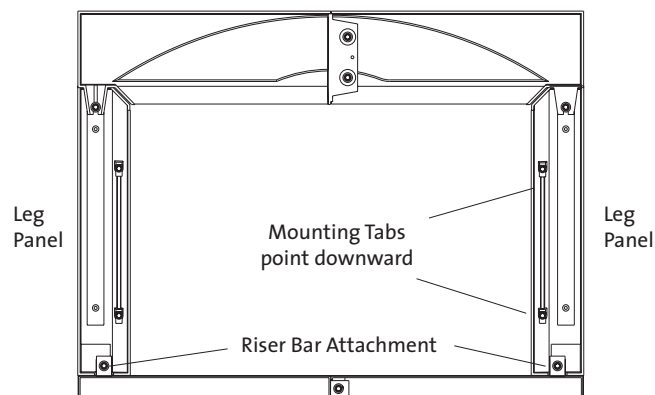

Figure 41. Surround mounting tab locations.
4. Four mounting tabs are attached to the back of the surround panels at the factory. Be sure all four tabs are in place and secure. See fig. 41.